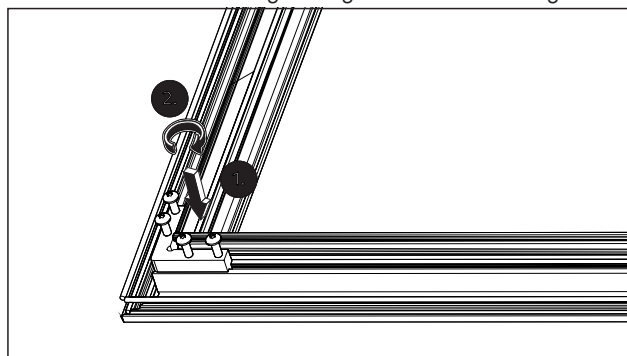

Fig. 27 Screw the brackets in the base profile for the door frame
4. Screw the brackets with the M5x10 screws in the base profile for the door frame using a hexagon socket wrench (Fig. 27).